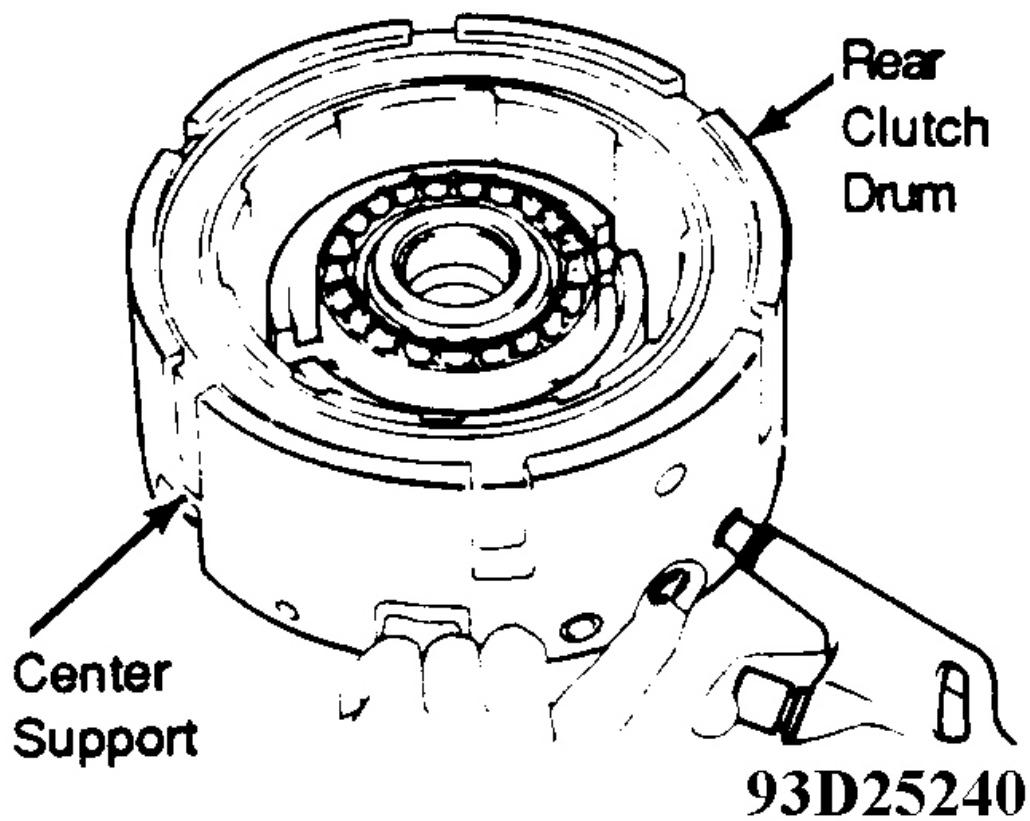

Fig. 27: Removing Rear Clutch Piston
2. Place center support on wooden blocks. Position clutch drum on center support. Hold piston with hand. Apply compressed air to oil hole in center support. Remove clutch piston. See **Fig. 27**. Remove 2 "O" rings from clutch piston.